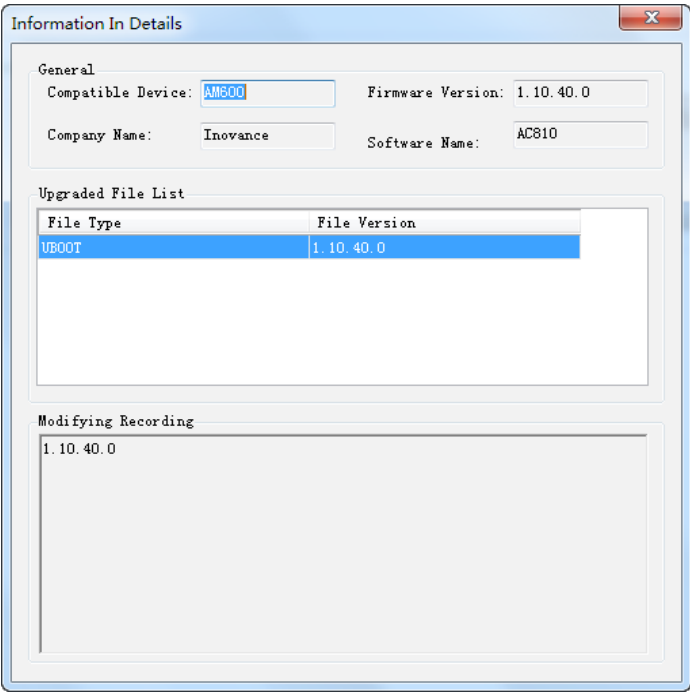

Figure 3-8 Firmware detailed information dialog box
- Detailed Version: detailed version information about the PLC, which may include UBOOT, Device Tree, kernel, and system program, as shown in Figure 3-8. If the PLC firmware has not been upgraded, the version information may not be included.